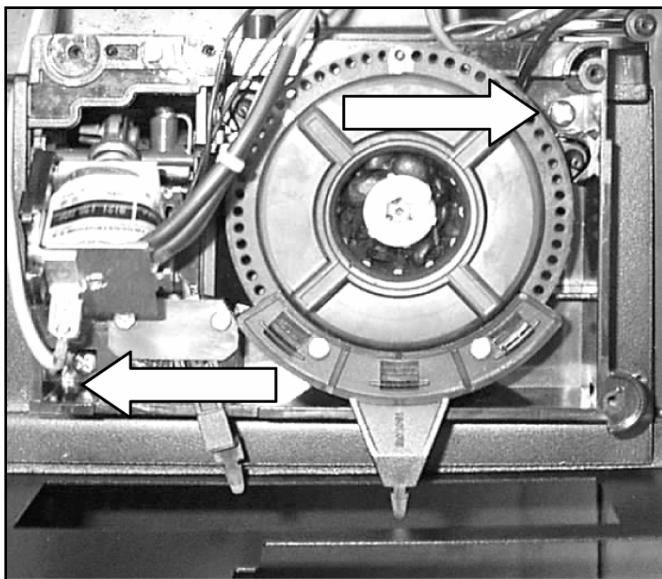
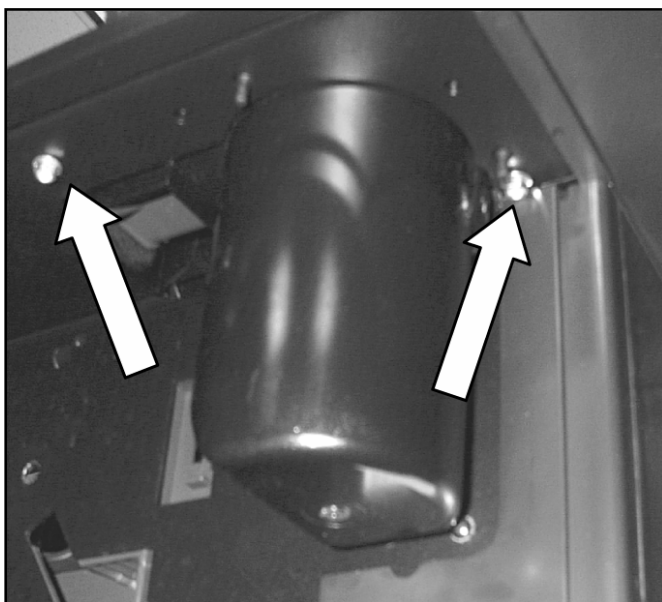

Figure 5-33: Grinder Retaining Screws
Figure 5-34: Grinder Retaining Nuts
18. Refer to Figure 5-33 – Grinder Retaining Screws and Figure 5-34 – Grinder Retaining Nuts.
22. Position the Grinder as necessary to access the Drive Cover and Drive Unit Retaining Screws. Refer to Figure 5-34 for the location of the screws.